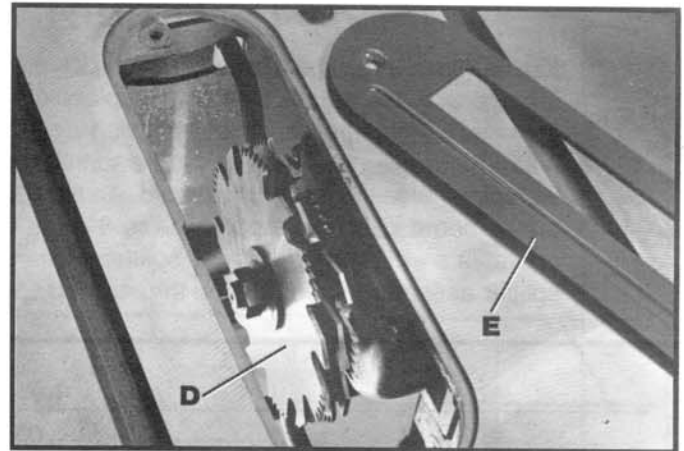
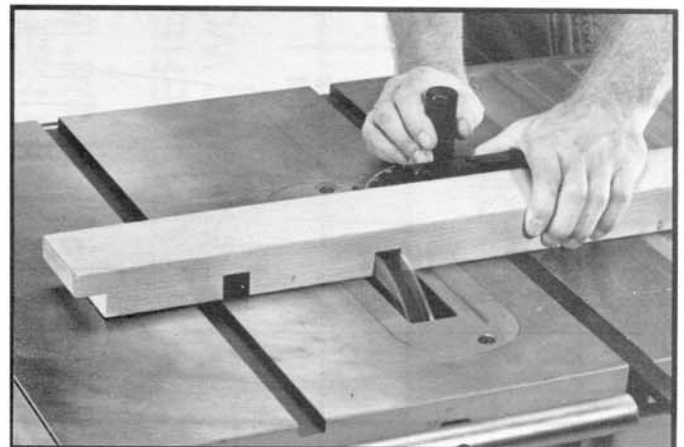

Fig. 41
Fig. 42
The dado head set (D) Fig. 41, is assembled to the saw arbor in the same manner as the saw blade. The guard, splitter and anti-kickback finger assembly cannot be used when dadoing and must be removed from the saw. In place of the guard, auxiliary jigs or fixtures and push sticks and featherboards should be used. Also, the accessory dado head table insert (E) Fig. 41, must be used in place of the standard table insert. Fig. 42, shows a typical dado operation using the miter gage as a guide.